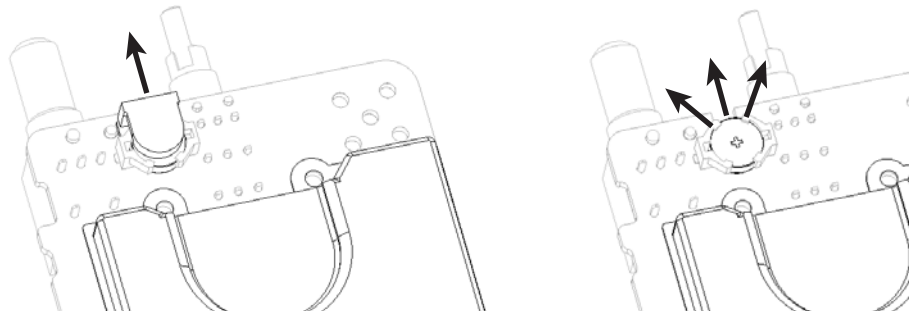

Figure 34. Remove the Backup Battery
- 2. Remove the backup battery retaining clip by sliding it away from the main circuit board, as shown in Figure 34.